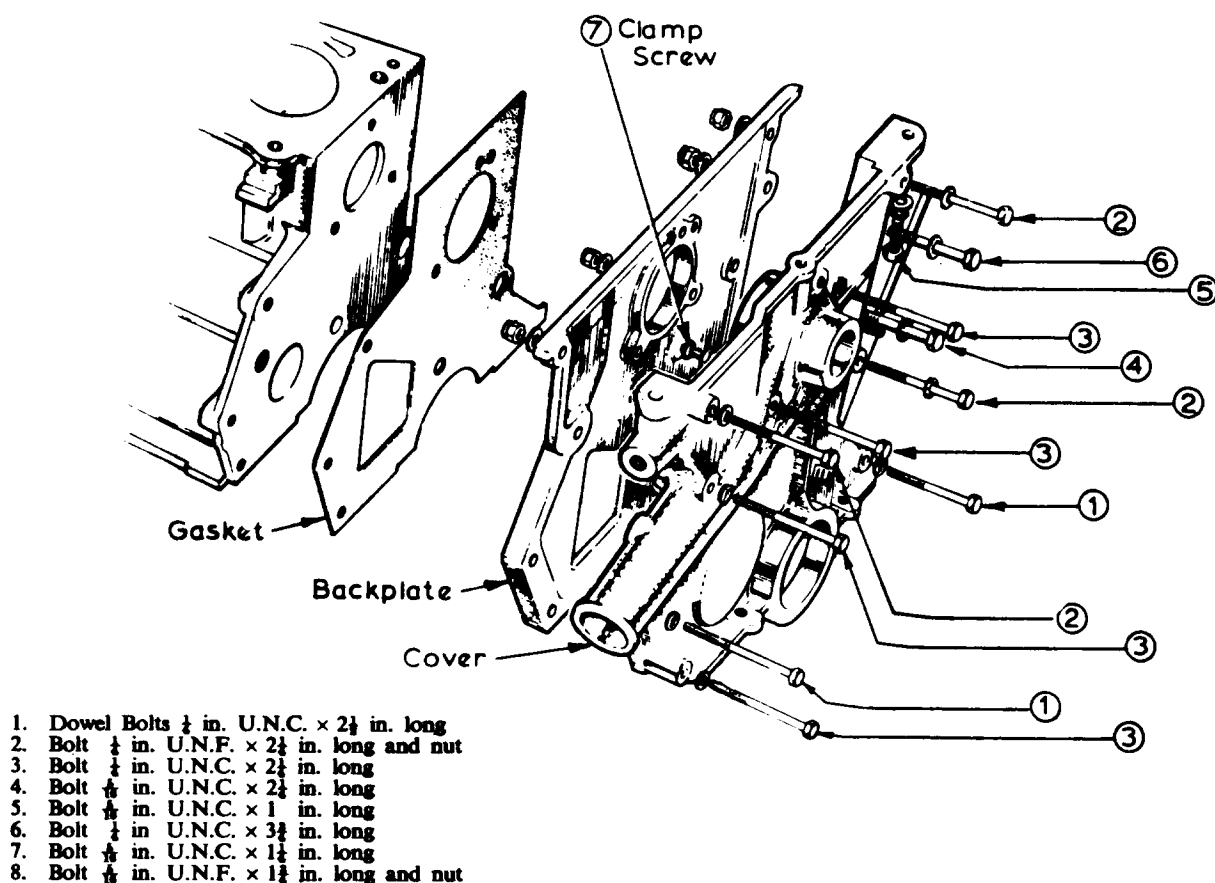

Fig. 19. TIMING CHEST BOLTS
1. The backplate is fitted with a DRY paper gasket to the cylinder block and retained by the single clamp screw ('7' of Fig.19). BEFORE tightening, assemble front cover to the backplate, locating both the water pump insert in the cover and the oil seal on the crankshaft. Move timing cover as an assembly including the backplate and its gasket, to ensure a maximum step between oil sump face on timing cover and cylinder block oil sump face and also between top faces of timing cover and backplate. This step should not exceed .25 mm.(,010 in.).
4. Apply jointing compound (Part No. A036 E 6027) to the cover joint faces and fit the cover. It is important that the cover is correctly aligned and that the bolts are fitted to their correct locations (see Fig. 19). Tighten the bolts to the specified torque loadings given in 'TECHNICAL DATA'.